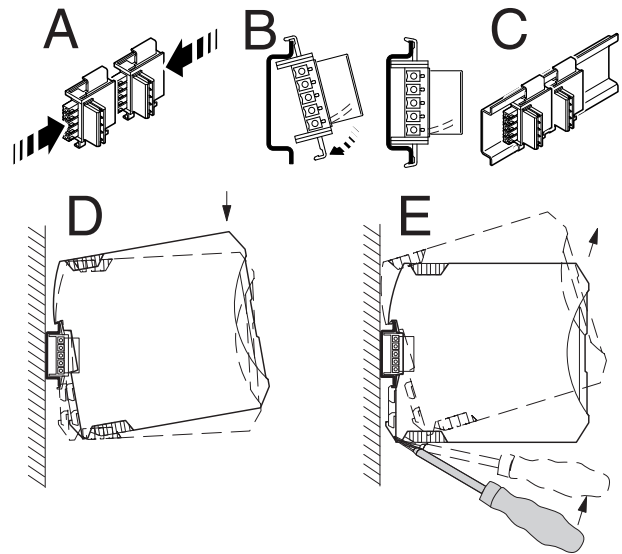

Figure 7 Mounting and removing
- Place the device onto the DIN rail from above so that the upper housing keyway hooks onto the top edge of the DIN rail (see Figure 7 D).
- Use a suitable screwdriver to release the locking mechanism on the snap-on foot of the device (see Figure 7 E).
- Carefully lift the device off the DIN rail connector and the DIN rail (see Figure 7 E).